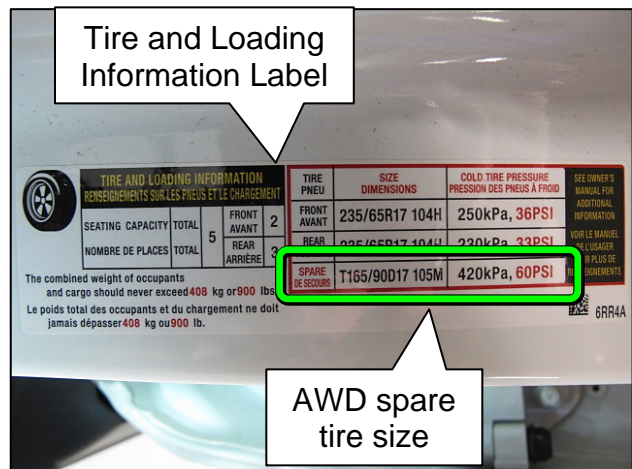

Figure 2
4. Write on the repair order the size of the spare tire as it is listed on the Tire and Loading Information Label (Figure 2).
HINT: The example in Figure 2 is an AWD vehicle, FWD vehicles will specify a different size tire.